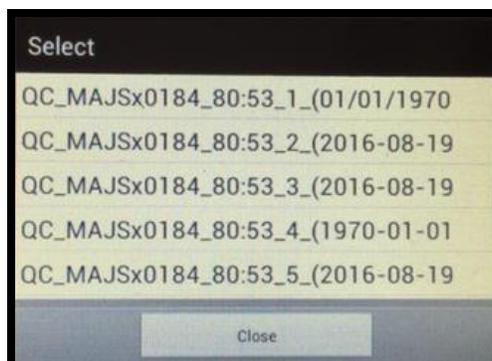

Figure 37
- a. Pressing **No** will return the software to the REPORT Main screen. Pressing **Yes** will open the selection prior saved analysis menu from which a selection can be opened by pressing on the desired test. (See Figure 37) The window will close automatically after the selection or if no selection is made the window can be closed by pressing the **Close** button. In either case the window will return to the main REPORT window.